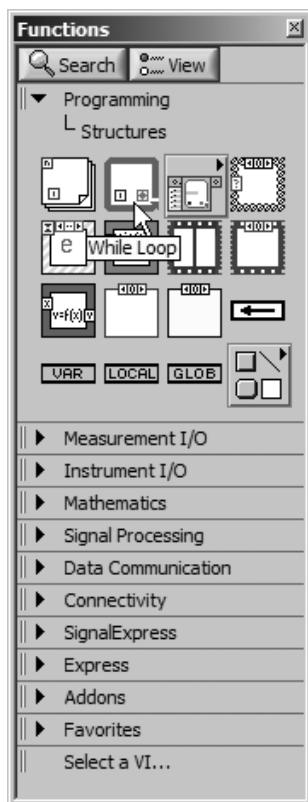

Figure 3.23
6. Now you will put the terminals inside a While Loop to repeat execution of a segment of your program. Go to the **Programming>>Structures** subpalette of the floating **Functions** palette and select the **While Loop** (see Figure 3.23). Make sure the block diagram window is active, or you will see the **Controls** palette instead of the **Functions** palette.